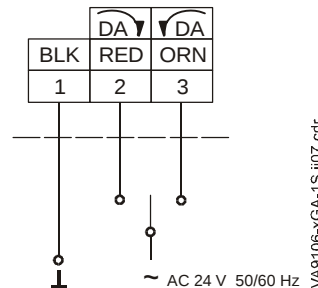

Figure 7: VA9104-AGA-1S and VA9104-IGA Control Wiring Diagram
The **VA9104-AGA** and **VA9104-IGA** Series Electric Non-Spring Return valve actuators require an AC 24 V input signal and work with a variety of controllers. These electric actuators include an integrated 1.2 m (48 in.) long cable. See Figure 7 for proper wiring.
The **VA9104-GGA** Series Electric Non-Spring Return valve actuators require an AC 24 V power and a DC 0(2) to 10 V or 0(4) to 20 mA controller input signal. These electric actuators include an integrated 1.2 m (48 in.) long cable. See Figure 7 for proper wiring.